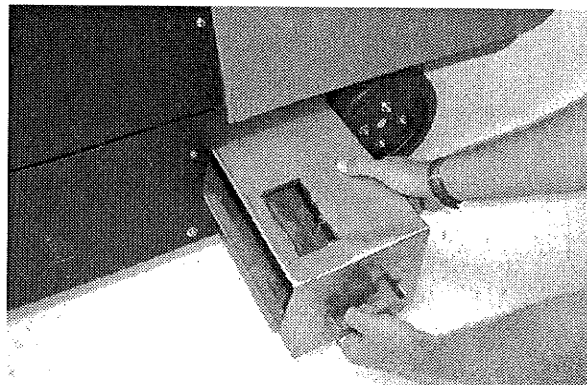

FIG. 31
4. Empty and rinse out hopper (Figure 31).